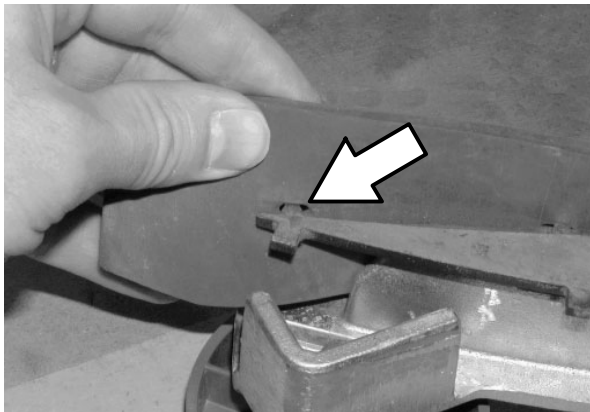

FIG. 4
6. Install the new front squeegee blade (4) onto the squeegee retainer plate (2). Be sure the holes in the front squeegee blade are hooked onto the squeegee retainer plate tabs. Refer to Fig. 4.